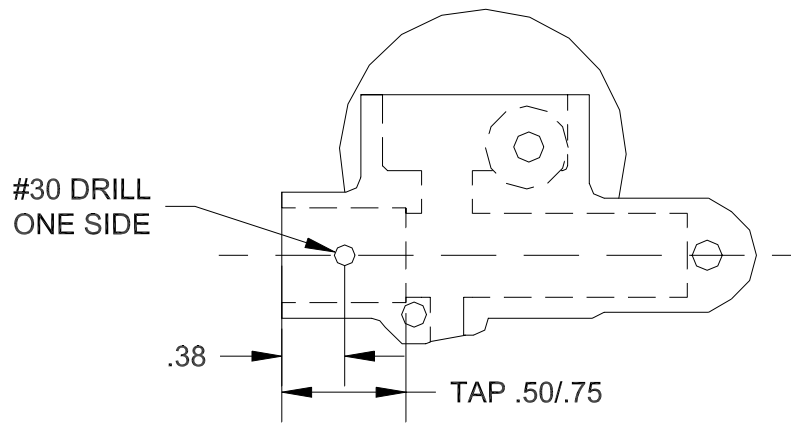

FIGURE DB-012 - Trim Control
Actuator assemblies containing a #30 drilled hole in housing through the wall of the inner spring tube socket as shown in Figure DB-012 are in compliance with this service bulletin and no further action is required.
- e. Drill a No. 30 hole in the housing through the socket wall as shown in Figure DB-012; deburr hole paying particular attention to burrs on the inside diameter of the housing tube socket.
- f. Cut spiral grooves inside the housing tube socket to depth of 0.50 to 0.75 inch using a 5/8"-11 standard tap as shown in Figure DB-012 and remove all loose debris. Clean with MEK and dry with clean cloth.